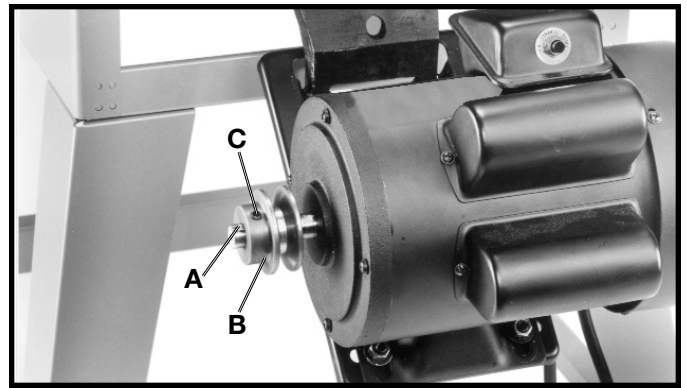

Fig. 20
3. Insert key (A) Fig. 20, in the keyway on the motor shaft. Assemble motor pulley (B) on motor shaft as shown, with the hub of the pulley out. Tighten set screw (C) against key (A) in motor shaft.